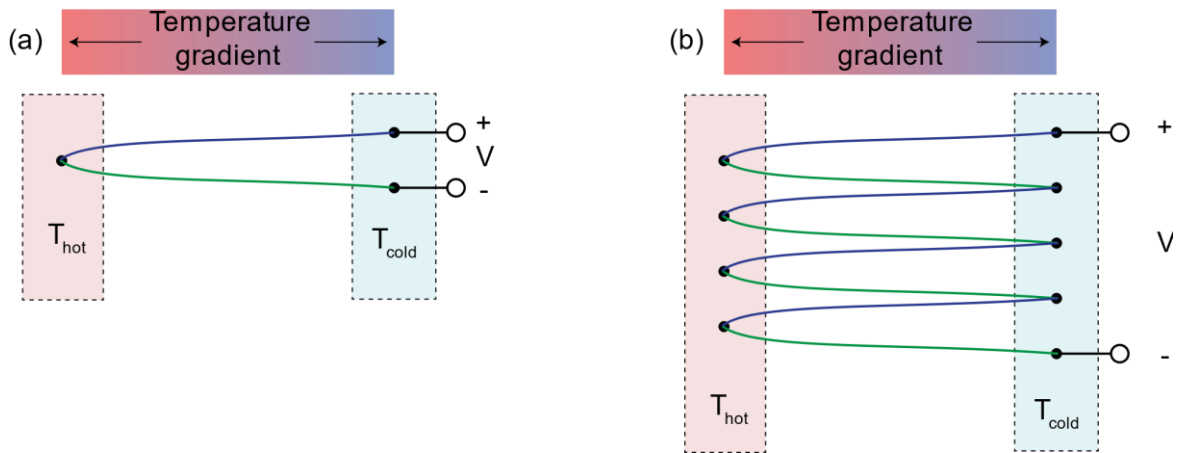

Figure 4: Thermocouple circuits.
The circuits shown in Figure 4 use Type K thermocouples. An extract from the ITS-90 database for this type of thermocouple is shown below.
- (a) Referring to Figure 4 (a), the junction temperatures are $T_{hot} = 80\text{ °C}$ and $T_{cold} = 25\text{ °C}$. What is the output voltage V ? (5 marks)
- (b) Figure 4 (b) shows the series connection of 4 identical thermocouples. If the junction temperatures are the same as before, what is the output voltage? (5 marks)